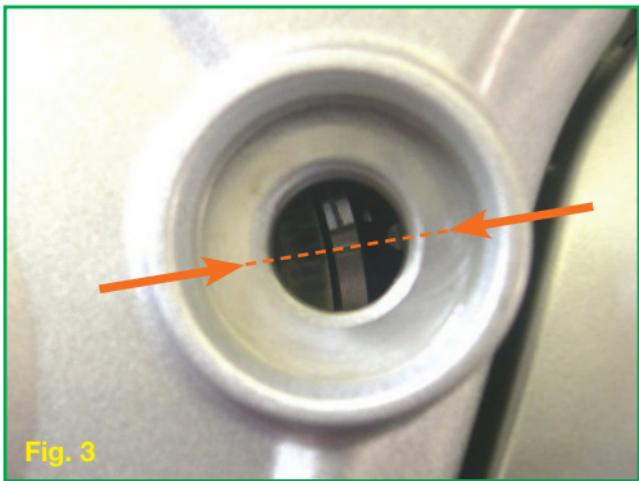

Fig. 3
- Position the crankshaft at the top dead centre in the compression stage, align the reference on camshaft sprocket (Fig. 2) with the fixed notch on the head, then align the "I" mark situated on the generator rotor with the fixed reference on the flywheel cover (Fig. 3).
- Position the crankshaft at the top dead centre and align the "I" mark situated on the generator rotor with the reference on the flywheel cover (Fig. 3).